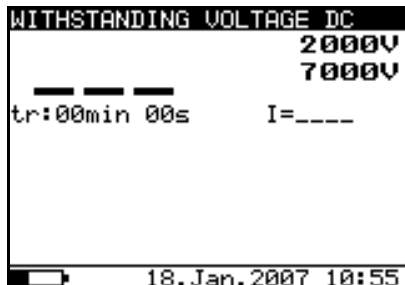

Fig. 43: Initial screen withstanding test
2. Select with arrow keys **▼** or **▲** the item “WITHSTANDING VOLTAGE DC” on main menu and confirm with **SELECT** key. The screen of Fig. 43 is shown by the meter
2. Select with arrow keys ▼ or ▲ the item “WITHSTANDING VOLTAGE DC” on main menu and confirm with **SELECT** key. The screen of Fig. 43 is shown by the meter